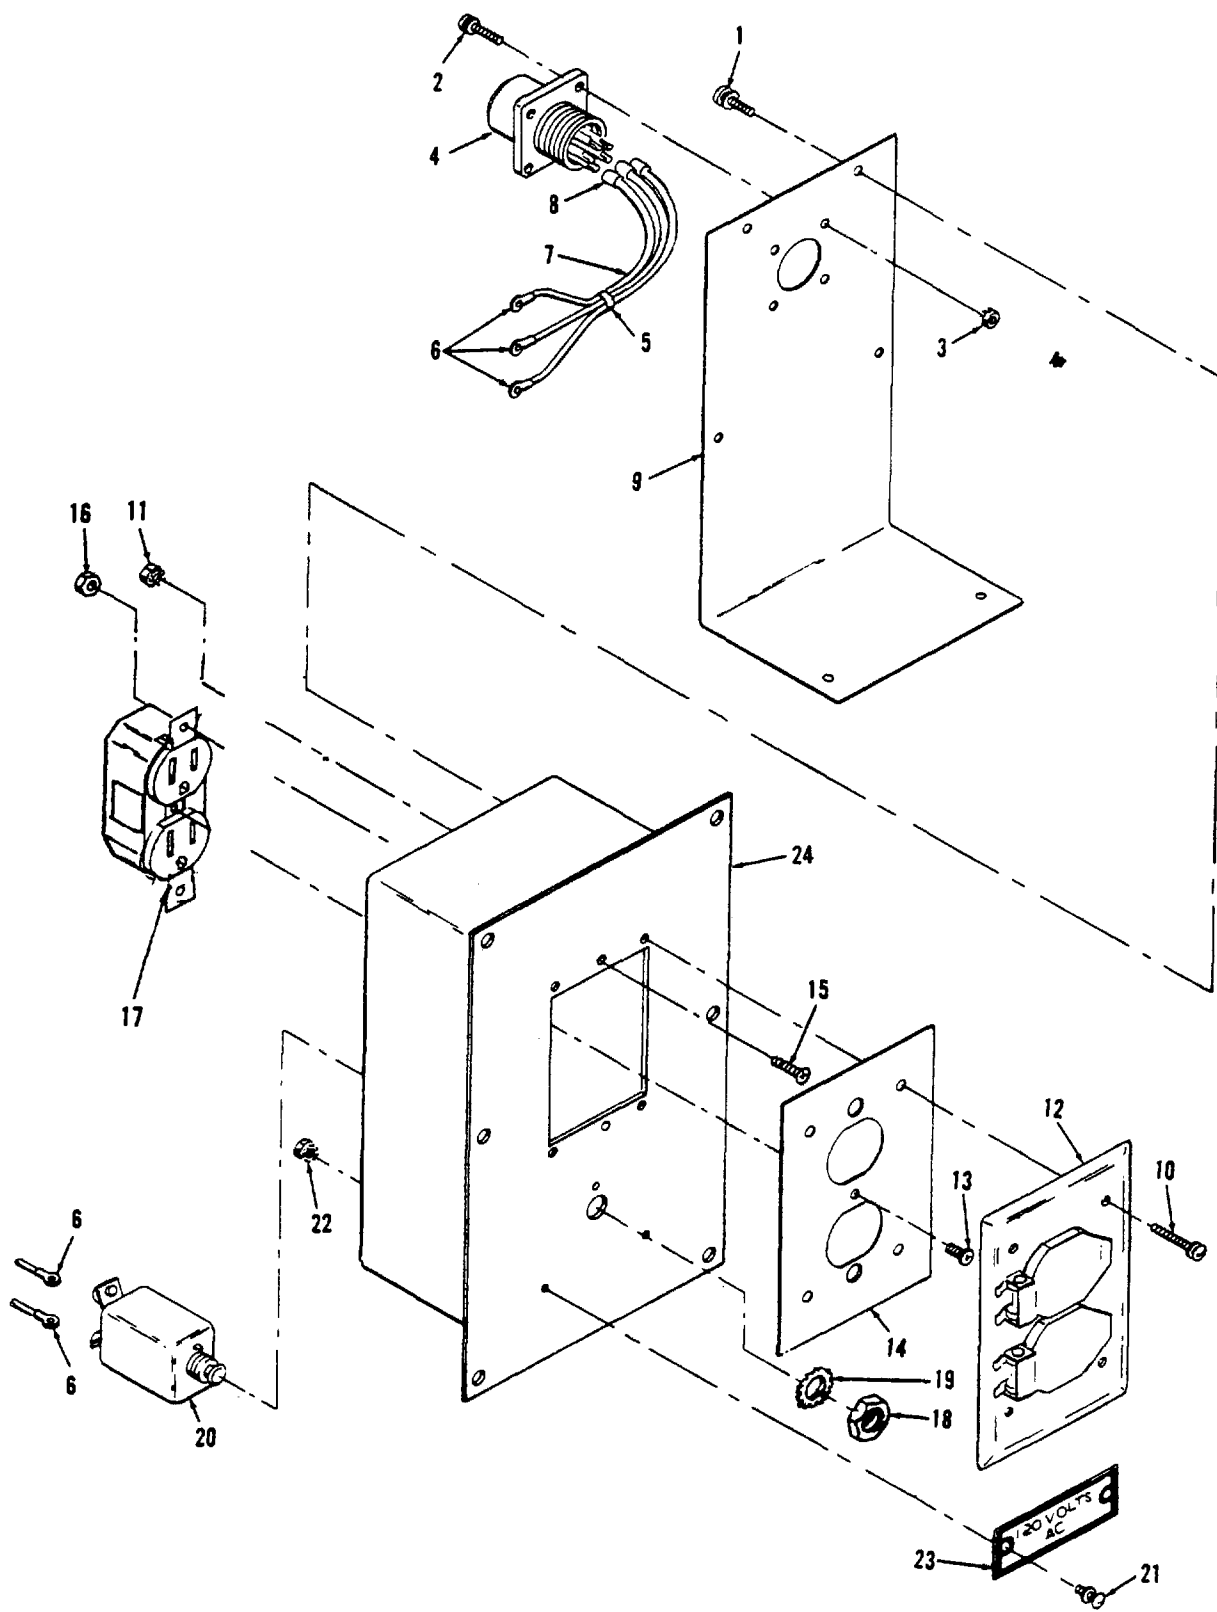

Figure 4-42. Convenience Receptacle Assembly, Exploded View
c. Disassembly. Refer to figure 4-42 to disassemble the convenience receptacle assembly. Pay particular attention to the following:
(1) Remove six screw assemblies (1) and separate the cover (9) from the housing (24).
(2) Tag and disconnect wires from circuit breaker (20) and the duplex receptacle (17).
Legend for Figure 4-42
(1) Repair defective wiring (refer to F0-1).
(2) Straighten dented or distorted sheet metal parts using proper tools.
g. Reassembly. Refer to figure 4-42 and reassemble convenience receptacle assembly. Pay particular attention to the following:
(1) Connect wires in accordance with F0-1.
(2) Install connector plug (4) with keyway up.